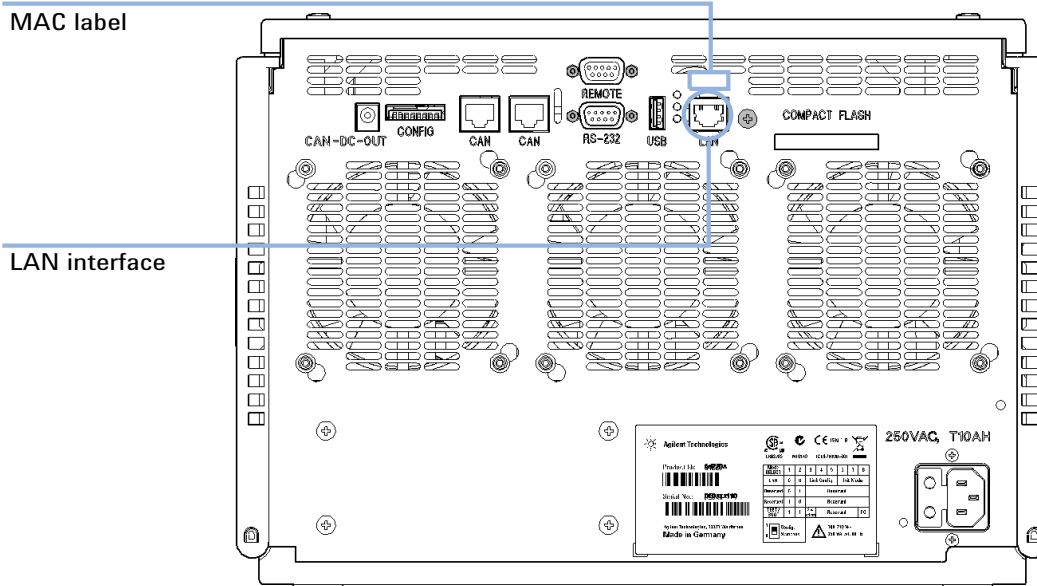

Figure 31 Location of LAN interfaces and MAC label
- 1 Note the MAC (Media Access Control) address for further reference. The MAC or hardware address of the LAN interfaces is a world wide unique identifier. No other network device will have the same hardware address. The MAC address can be found on a label at the rear of the module (see Figure 31 on page 245).
- 2 Connect the instrument's LAN interface (see Figure 31 on page 245) to